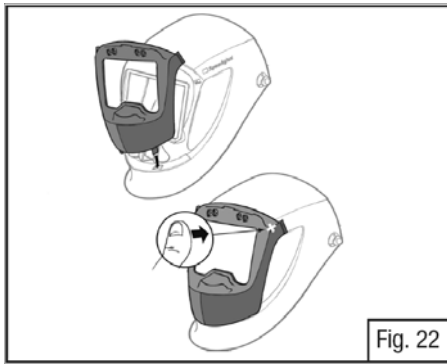

Fig. 22
- Reinstall the FlexView middle helmet panel by first inserting its two bottom tabs into the inner shell (Fig 22). Next, push the middle helmet panel's two top corners until they snap-lock onto the inner shell.